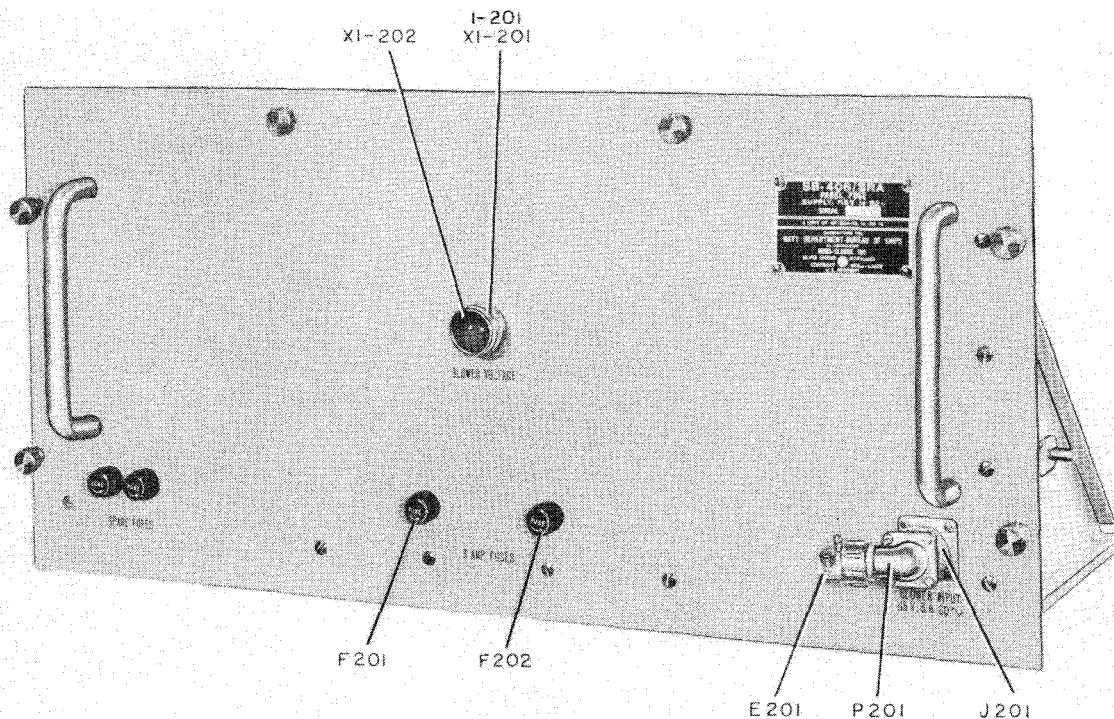

Figure 7-3. Panel, Fuse SB-406/SRA, Front View, Location of Parts
b. MISCELLANEOUS PARTS.—The location of miscellaneous replacement parts such as thumbscrews, blower motor B301, starting capacitor C301, etc., are shown on figures 7-3 through 7-10. The removal and replacement of such parts are obvious from examination of the equipment.